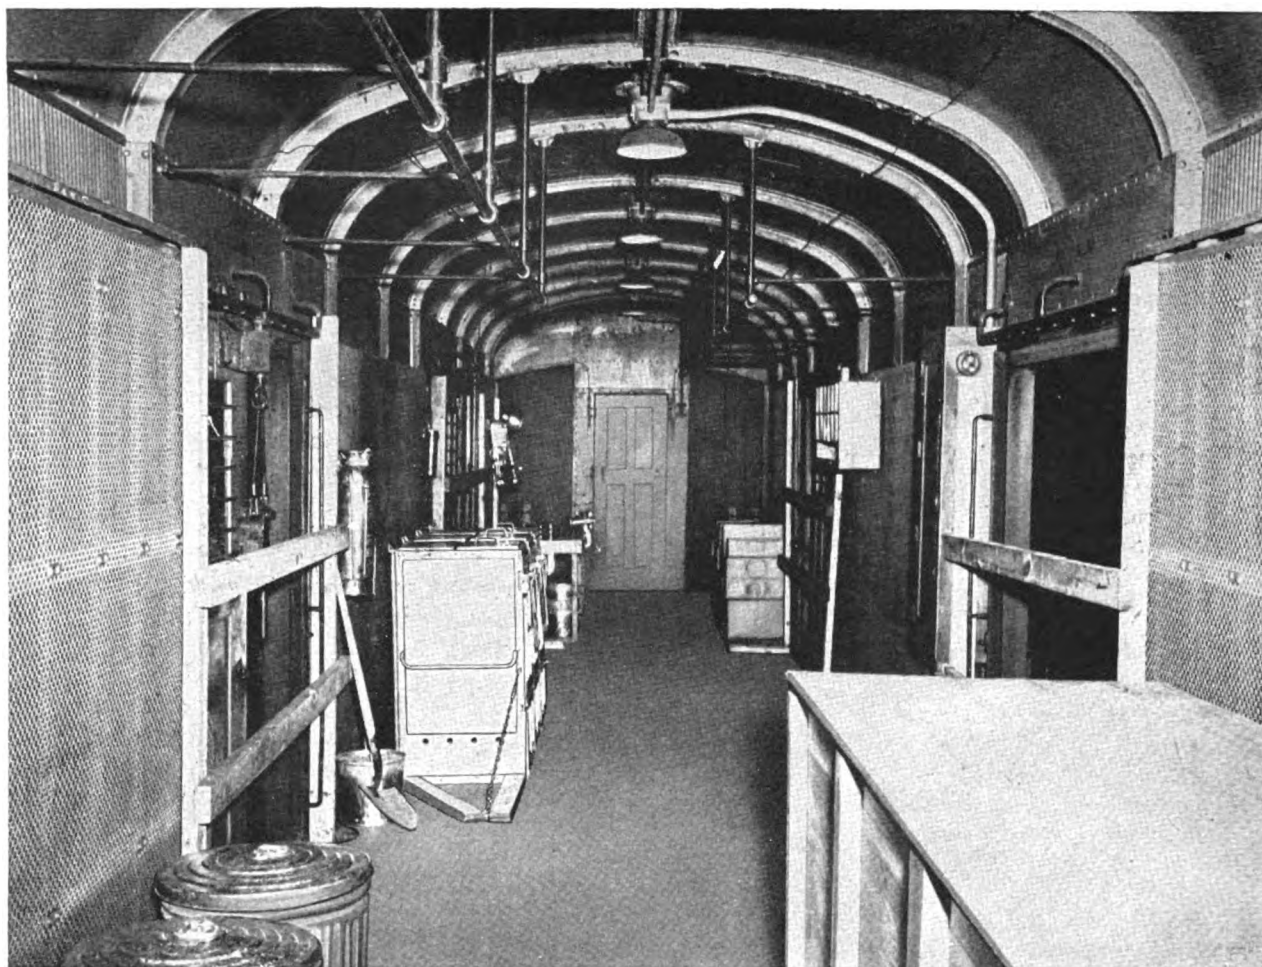

Figure 41. Three-cabinet unit, range, field, M1937, installed in railway kitchen car.
a. When properly installed, the M1937 range may be used for cooking in railway kitchen cars. (See figs. 41 and 42.)
e. **GASOLINE SUPPLIES.** (1) All gasoline, either in kitchen cars or in the reserve supply, must be carried only in cans meeting Interstate Commerce Commission specification "ICC 5-L." Range reservoirs must be filled only from cans of this type. A nozzle may be furnished with each unit of cabinets for the safe transfer of gasoline into the tank of the range.
(2) Three such cans of gasoline may be furnished for each gasoline range in the car in which ranges are installed (kitchen car), with a maximum of nine cans permitted in any one car. Additional